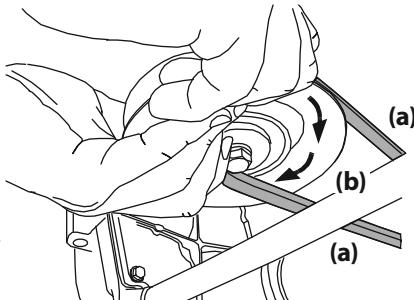

Figure 46
- d. While still holding the PTO belt (a) downward, continue turning the PTO pulley (b) until the PTO belt (a) is rolled off the PTO pulley (b). Refer to Figure 46.
10. While holding the PTO belt and PTO pulley together, rotate the PTO pulley to the left (See Figure 46). Continue holding and rotating the PTO pulley and PTO belt until the PTO belt is fully rolled into the PTO pulley.